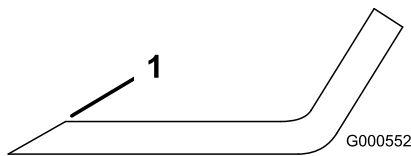

Figure 60
- Use a file to sharpen the cutting edge at both ends of the blade (Figure 60).
**Note:** If the blade is not balanced, file some metal off the end of the sail area only (Figure 60).